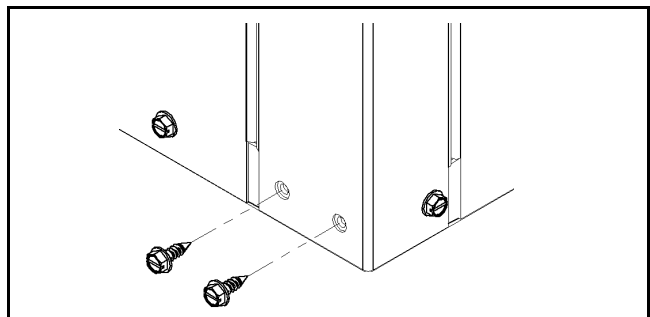

Fig. 5 Screw Locations
1. Remove and discard factory-provided screws from the locations where hanging brackets will be installed. See Fig. 5.